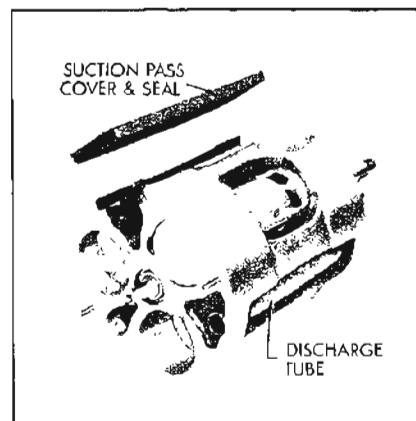

Figure 11-34—Suction Passage and Discharge Tube
8. Suction Pass Cover—The suction pass cover fits over a suction passage (see Figure 11-34) in the body at the cylinder assembly. A rectangular neoprene seal is used to insure proper sealing action along the edges of the cover. Low pressure vapor flows from the